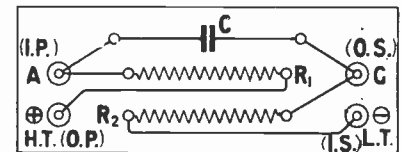

Fig. 3.—The wiring of the Resistocap Unit.
A wiring diagram of the Resistocap Unit is shown in Fig. 3. It will be seen that its four terminals correspond to those of a low-frequency transformer, so that connections can be made without difficulty. If the circuits are traced out it will be seen that the plate is connected *via* the terminal marked A, both to the coupling condenser (C) and to the anode resistance R_1 , the other end of which is taken to the H.T. + terminal. The other side of the coupling condenser is taken to one end of the gridleak R_2 , the other end being connected to the L.T. - terminal.